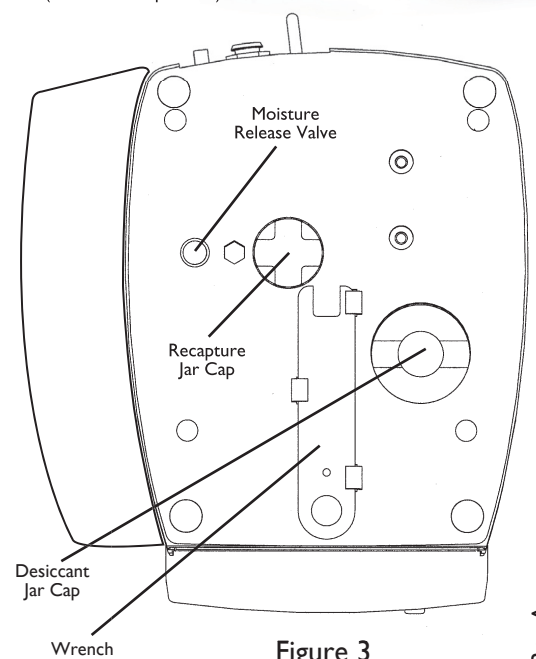

Figure 3
MAINTENANCE (See Figure 3)
1. On the underside of the PrepStart (see Figure 3) there are three user accessible ports. The larger of the openings is for replacing the desiccant silica gel. The silica gel has already been added to your unit, and is visible through the sight glass on the cap. (See operators manual for replacement).